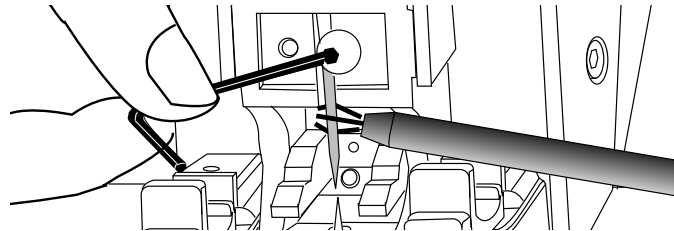

Figure 77
3. Loosen the hex screw with the supplied hex wrench. Take care not to touch the tips of the electrodes when removing or replacing them to prevent skin oils from coming in contact with them (Figure 77).